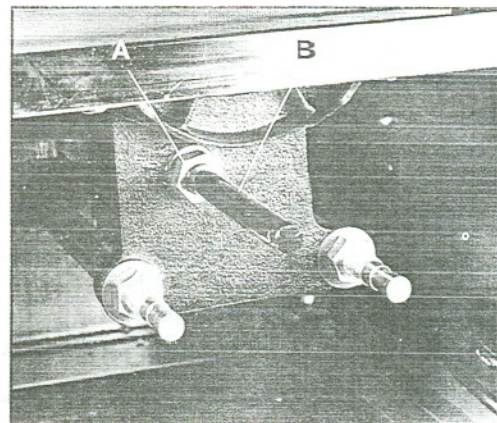

Fig. 11
1. Thread a M16 hex nut (A, Fig. 11) completely onto the 5/8" x 8" splitter rod (B, Fig. 11). Thread splitter rod into rear trunnion and lock in place by tightening hex nut.